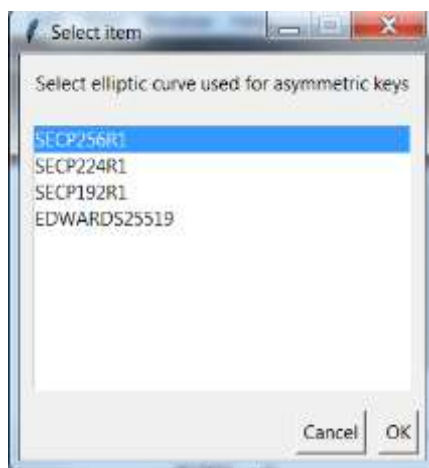
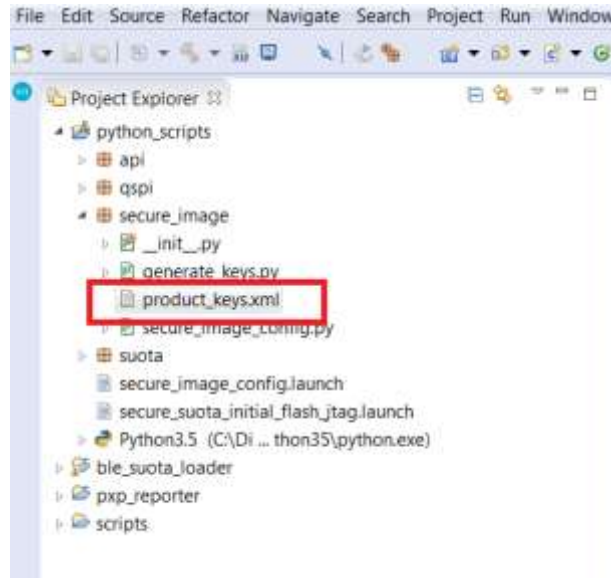

Figure 52: elliptic curves used for creating asymmetric keys
Figure 53: generated *product_keys.xml* file
5. After selecting “Yes” in the previous dialog next window, Figure 52, pops out. User must decide, which type of elliptic curve would like to use for creating asymmetric keys. The curve will be used during an asymmetric key generation and image signature generation. After this procedure completes, product_keys.xml file will be generated in python_scripts project in secure_image subdirectory (Figure 53).
Note 20 By selecting “No” in Figure 52 the user must provide the private key manually by inserting a private key index and its value as shown in Figure 54 and Figure 55.